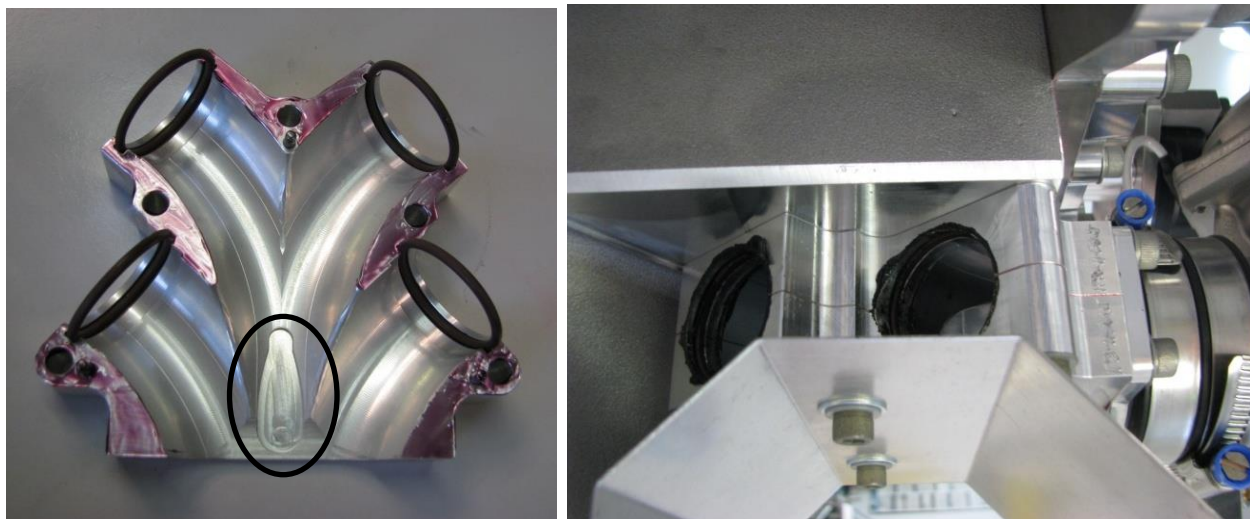

Figure 198 – Induction Manifold Installation
- Fit the diffuser(s) inside the plenum chamber halves. 2200 and most 3300 engines both use an “airfoil” diffuser shaped as circled in Figure 198 (Left). Later 3300 engines use two round diffusers.